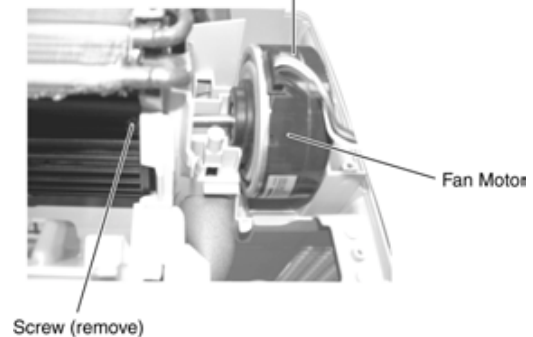

Fig. 7
5. Remove the screw at the Cross Flow Fan. (Fig. 7)
REMINDER - To reinstall the Fan Motor, put it back in place, adjust the position of the Fan Motor's leadwire appropriately as shown in the Fig. 7--- before installing the Cross Flow Fan.